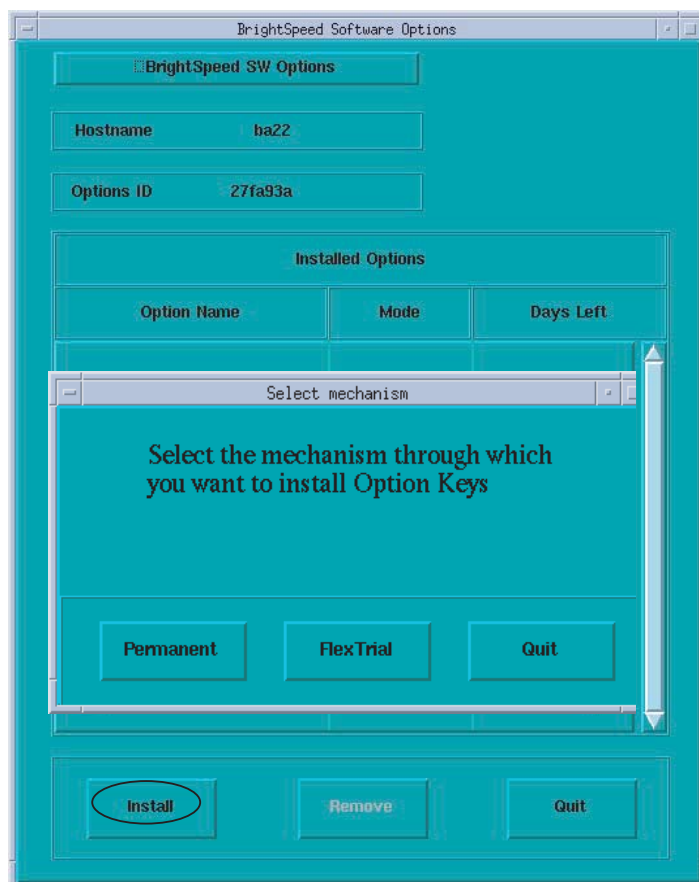

Figure 7-6 Options Window when First Selected
- 4.) Select INSTALL and click START. The console displays the Software Options window as shown in Figure 7-6.
- 20.) The system will check valid setup entries, execute a perl script that makes changes to the configuration files for HIS/RIS, and return to the Software Option window shown in Figure 7-6.